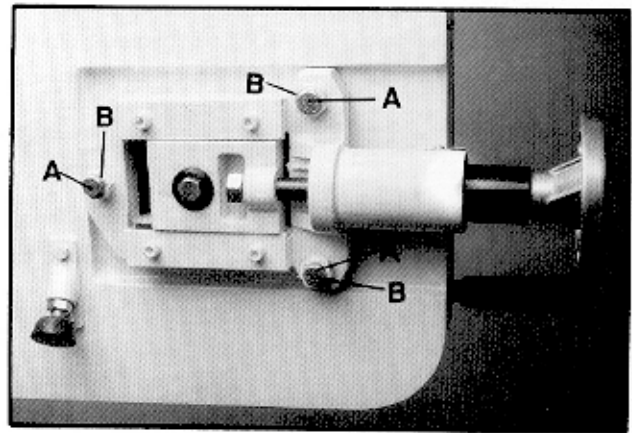

Fig. 9
4. Loosen the three bolts (A, Fig. 9) located on the top of the tracking nuts.
5. Tracking adjustment is accomplished by either loosening or tightening three adjusting nuts (B, Fig. 9).
7. Tighten locking bolts (A, Fig. 9) once proper tracking is completed.